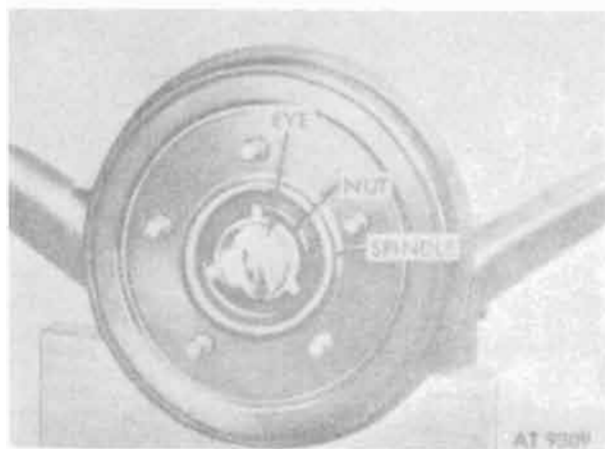

Figure 11-10. Lifting eye and nut.
d. Remove lifting eye and nut from spindle hub, using bar or wrench (fig. 11-10).